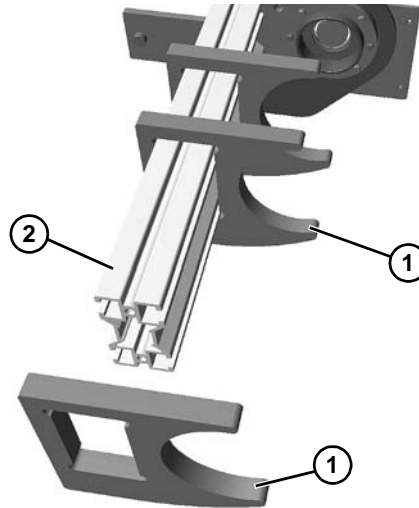

Figure 74
19. Remove gap filler plates (**Figure 74, item 1**) from crossmember (**Figure 74, item 2**).